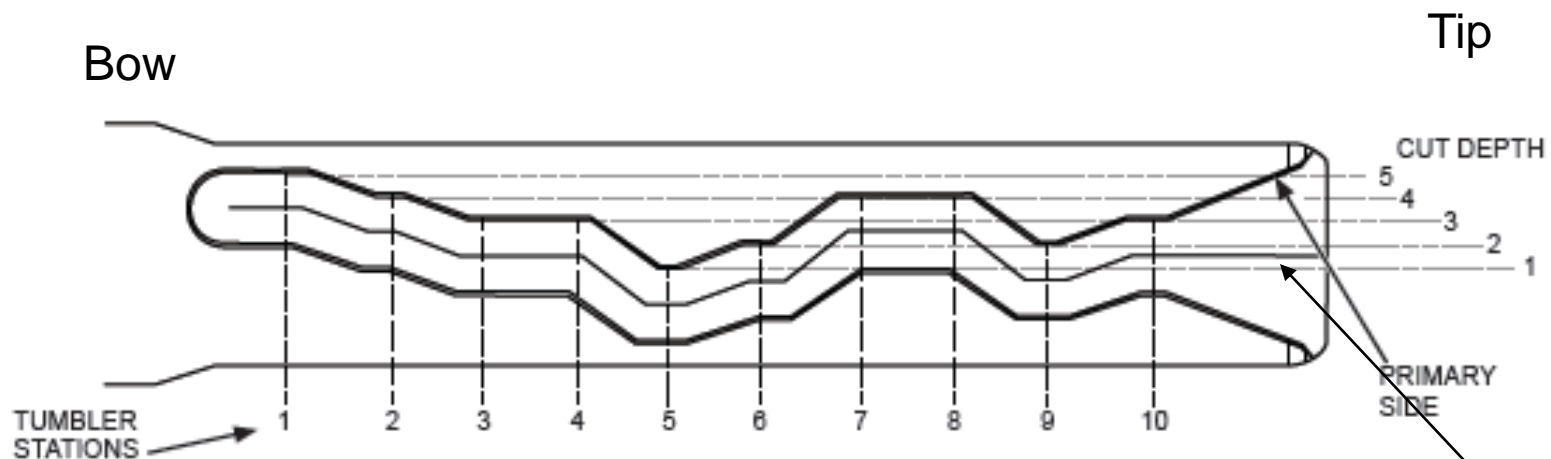

FIGURE 1
- 4) See example in next slide Figure 1 for the exercise
2. Using the cut key, measure the key cut depth at each station (refer to figure 1) and write down the corresponding key cut depths in terms of depth code, not the actual measurements of the depths in this chart.